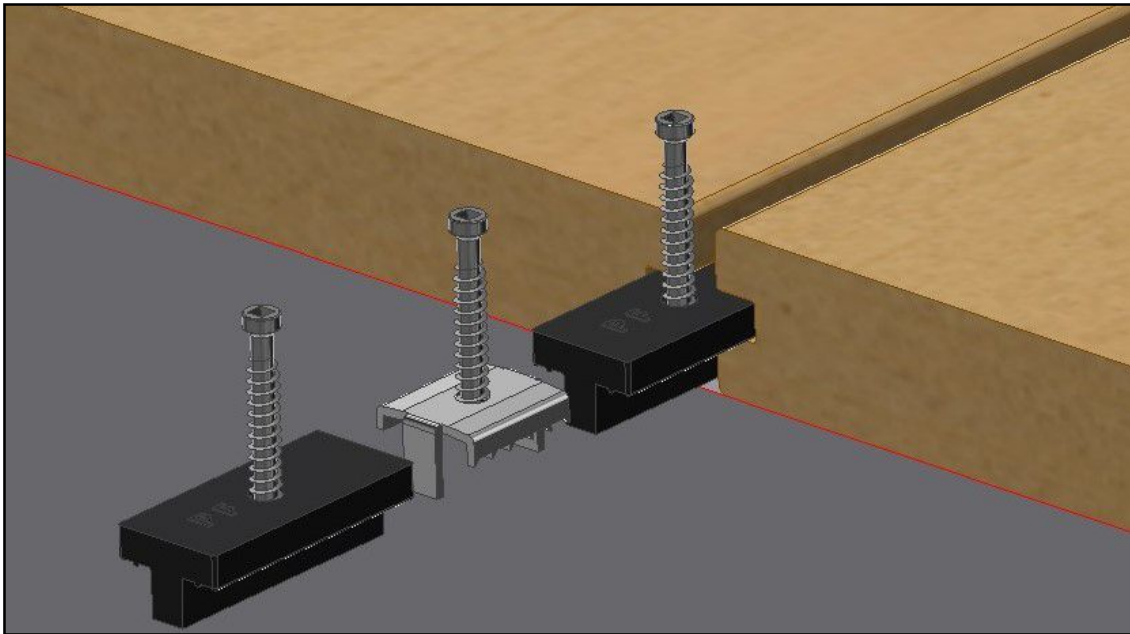

Figure 5
2. As shown in the Figure5, slide the clips in along the groove.